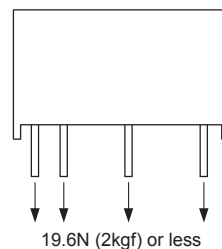

Fig.6.1 Stress onto Pins
- (1) Flow Soldering : 260°C 15 seconds or less
- (2) Soldering Iron : maximum 360°C 5 seconds or less
■ Applying excessive stress to the input or output pins of the power module may damage internal connections. Avoid applying stress in excess of that shown in Fig. 6.1.